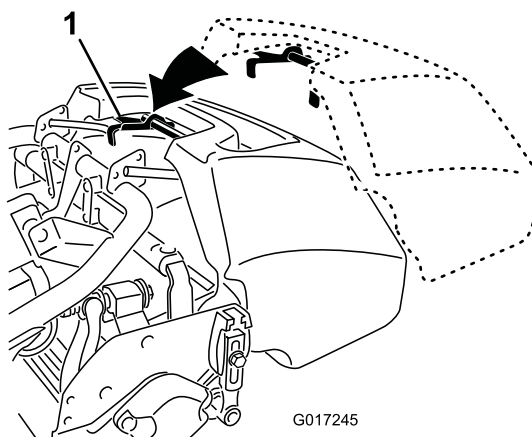

Figure 17
1. Grasp the basket by the handle (Figure 17).
2. Guide the basket lip between the cutting unit side plates and over the front roller (Figure 17).
3. Install the basket hooks over the frame loop (Figure 17).